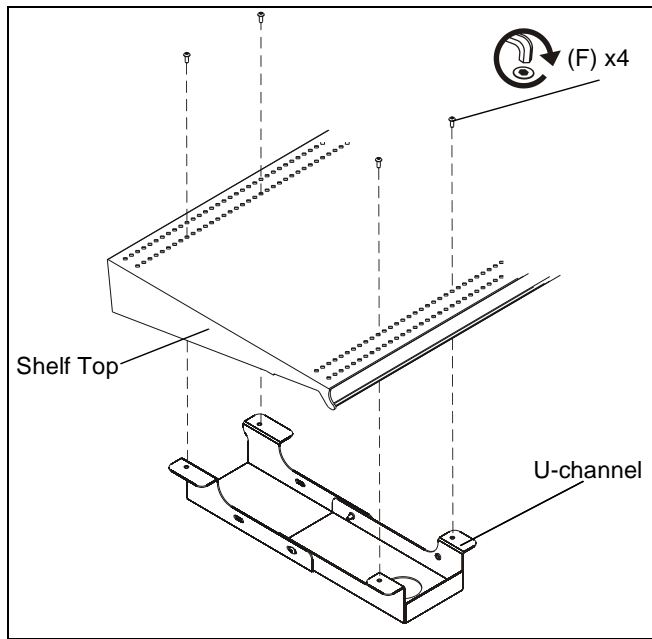

Figure 5
2. Install connected U-channel to shelf bottom using four 10-24 x 1/2" button head cap screws (F). (See Figure 5)